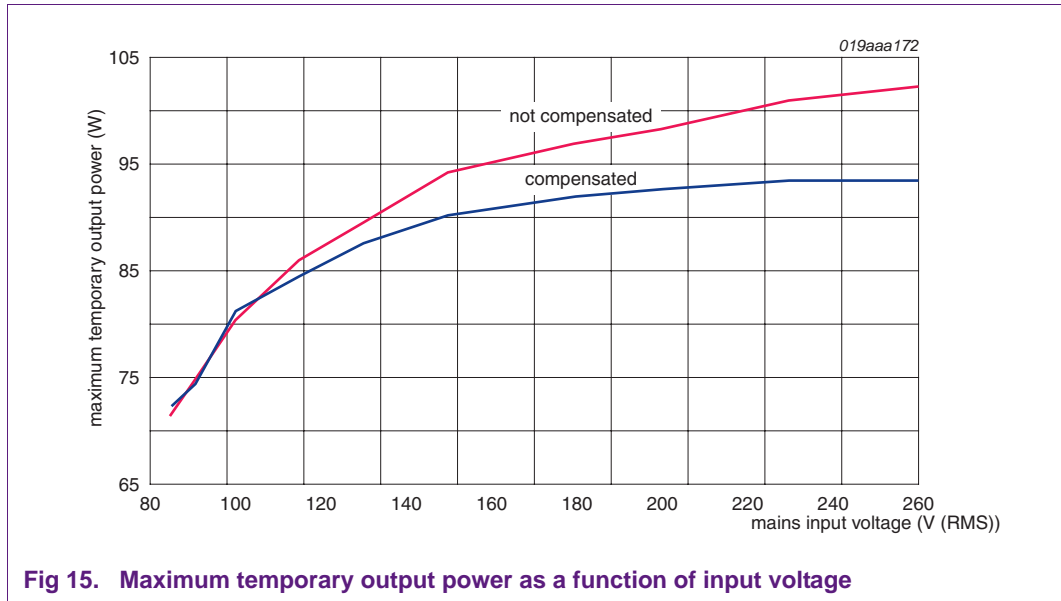

Fig 15. Maximum temporary output power as a function of input voltage
- The maximum temporary output power also depends on the input voltage. When the OPP compensation has been configured optimally for the maximum continuous output power, it will not be compensated optimally for the maximum temporary output power. See Figure 15.